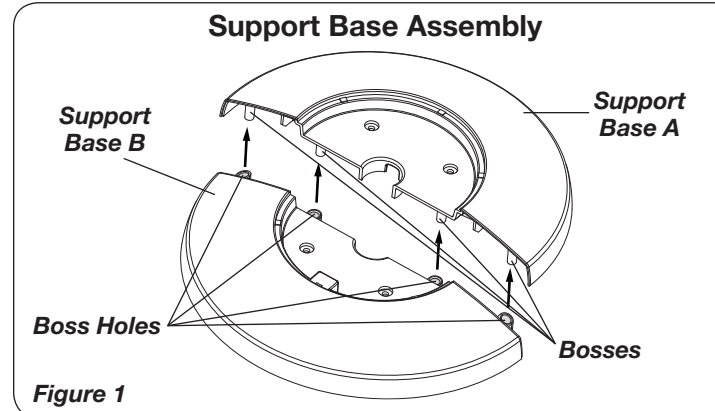

Figure 1
2. Assemble the Support Bases by interlocking the *Bosses* on *Support Base A* into the *Boss Holes* on *Support Base B*. Thread the *Power Supply Cord* through the large hole in the center of the Support Base Assembly. (*Figure 1*)